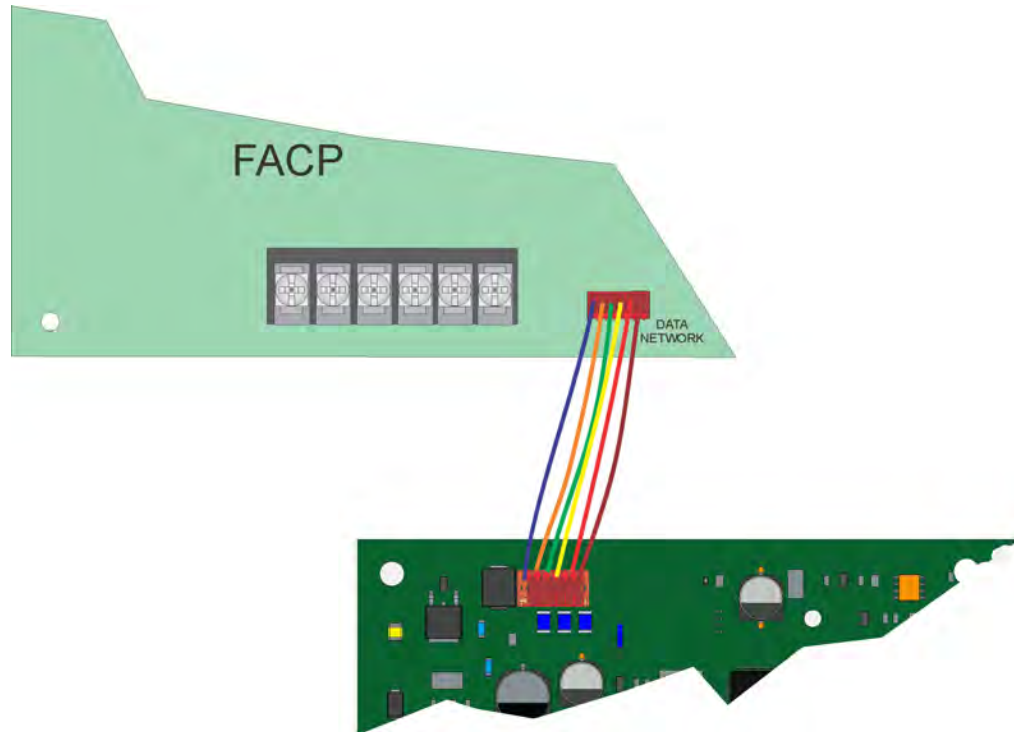

Figure 5.6 Panel to TR-NIC connection
- Use the 6-pin cable included with TR-NIC to connect the TR-2100 to the TR-NIC. Connect the TR-NIC to the pin connector on the control panel labeled Data Network. See Figure 5.6.